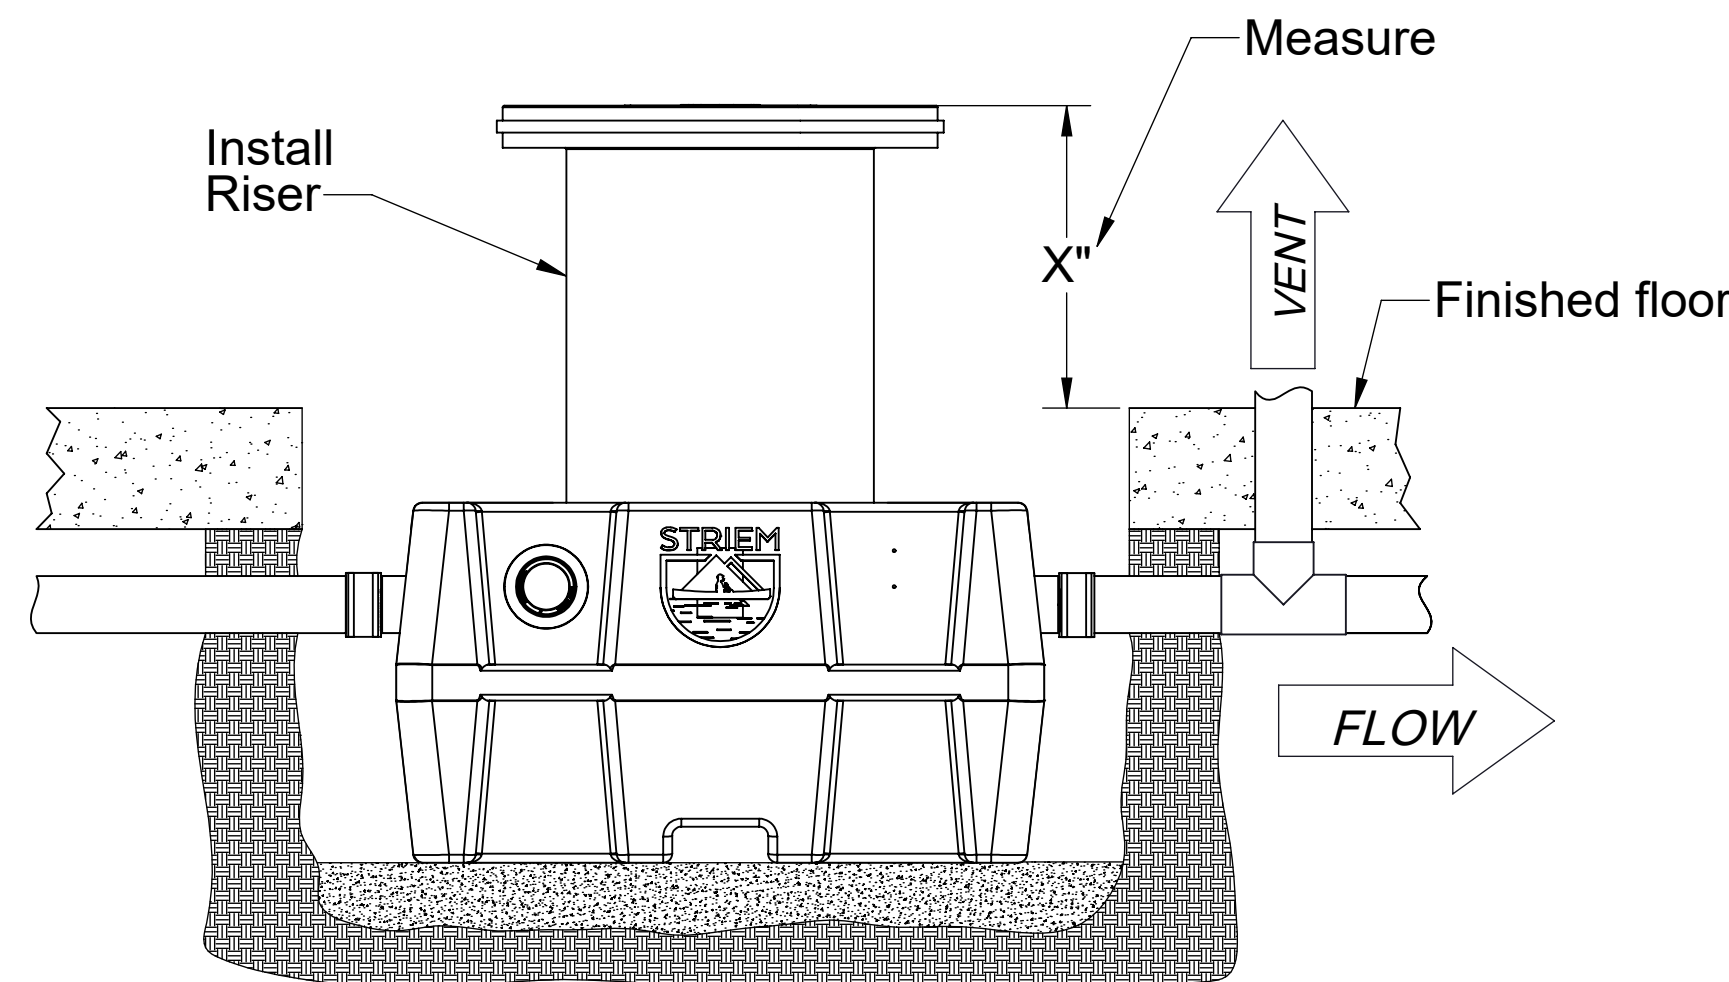

Figure 2
5. From the top of the adapter, measure your needed total riser height downward to the sidewall of the riser. Then, add 5" (for OS-35 or OS-50) or 6" (for OS-75, or OS-100). For example, if you have a OS-100 and need a 15-1/2" extension, you would measure down from the top of the adapter 21-1/2" (15-1/2" + 6" = 21-1/2"). See Figure 2.
4. Push riser into ring until it stops (about 1 inch). See Figure 2.
5. Measure the distance from the top edge of the riser down to the finished floor. Make sure to account for any future tile work in your measurement. See Figure 2.